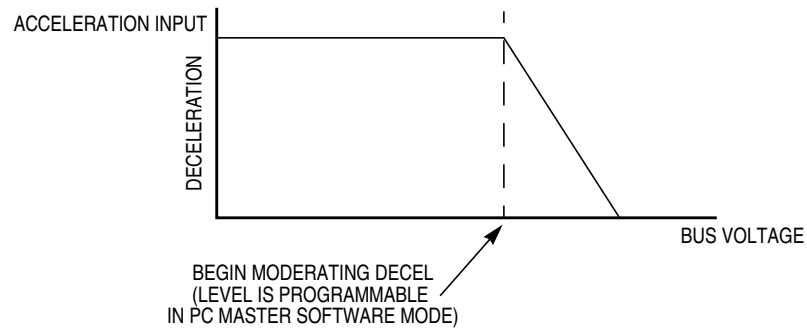

Figure 7. Deceleration as a Function of Bus Voltage
- **Automatic Deceleration Control** — When decelerating the motor, the MC3PHAC attempts to use the specified acceleration value for deceleration as well. If the voltage on the DC_BUS pin reaches a certain threshold, the MC3PHAC begins to moderate the deceleration as a function of this voltage, as shown in Figure 7. The voltage range on the DC_BUS pin from when the deceleration begins to decrease, to when it reaches 0, is 0.62 volts. In standalone mode, the DC_BUS voltage where deceleration begins to decrease is fixed at 3.85 volts (110 percent of nominal) where nominal is defined to be 3.5 volts. In PC master software mode, this threshold can be set to any value between 0 volts (0 percent of nominal) and greater than 5 volts (143 percent of nominal) and can be changed at any time.